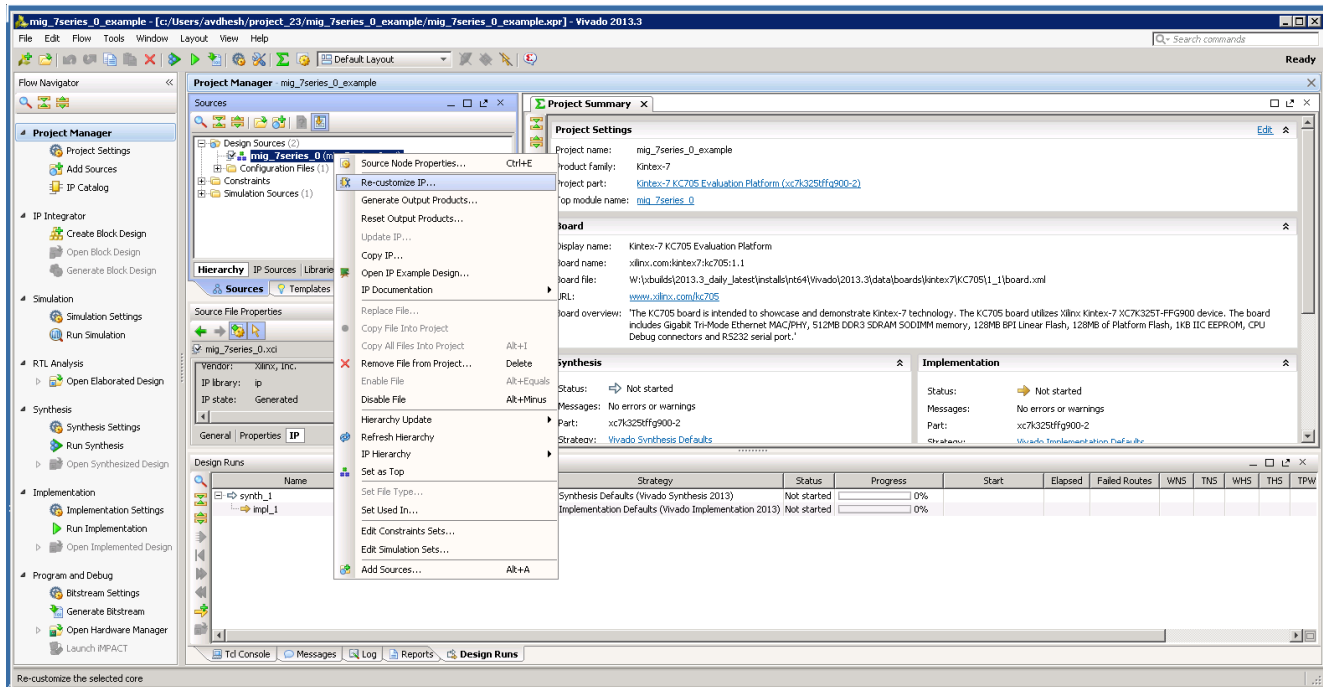

Figure 2-37: Recustomize IP
12. Recustomization of the MIG IP core can be done by using the **Recustomize IP** option. It is not recommended to recustomize the IP in the example_design project. The correct solution is to close the example_design project, go back to original project and customize there. Right-click the XCI file and click **Recustomize IP** (Figure 2-37) to open the MIG GUI and regenerate the design with the preferred options.